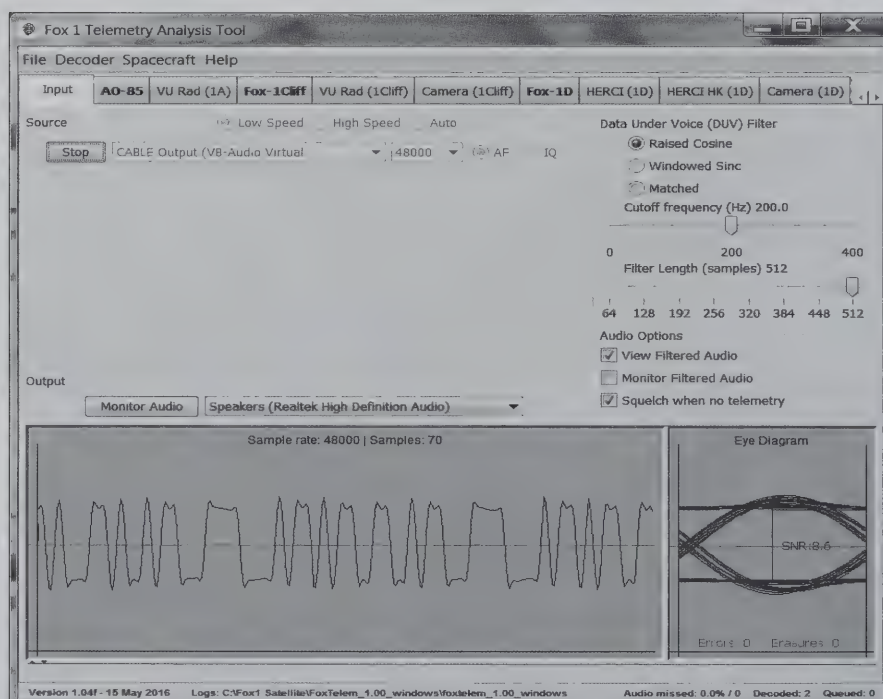

Figure 9.
10. From Foxtel, select “Start” and the data should appear on the two bottom windows (Figure 9).
Figure 9 — Using GNU Radio flow graphs from Daniel Estévez (EA4GPZ), LilacSat-1 transmits a live picture from space on 70cm in response to a packet command transmitted on 2m FM.
the foundation provided by the LilacSat Project Team at the Harbin Institute of Technology in China to allow us to decode spacecraft telemetry, GPS location data, JPG pictures taken in space, PLUS the digital voice downlink from LilacSat-1's onboard FM repeater! His work is both incredible and all freely available. Many other satellite decoders and utilities are available from Daniel at github.com/daniestevez/gr-satellites (Figure 9).